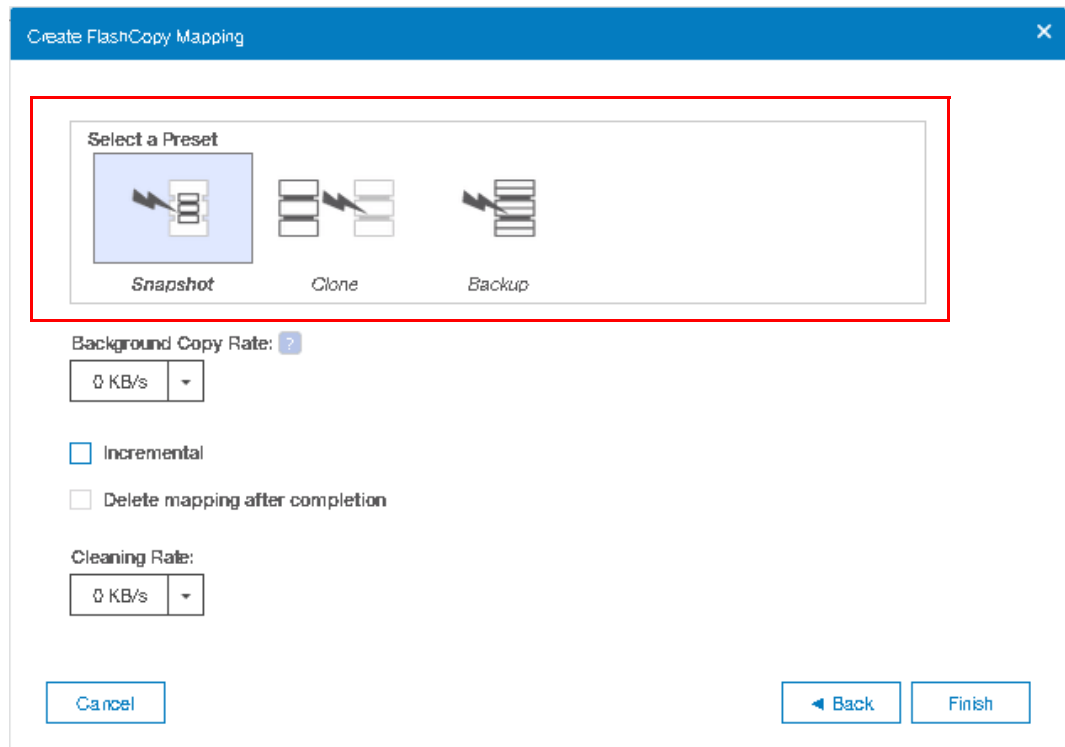

Figure 10-47 Create FlashCopy Mapping window
8. In the next window, you must select one FlashCopy preset along with their customization options. The GUI provides the following presets to simplify common FlashCopy operations, as shown in Figure 10-47 on page 503: